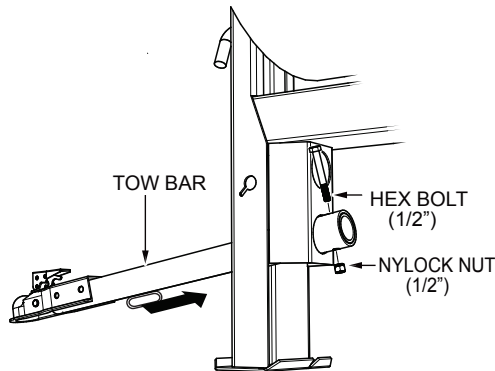
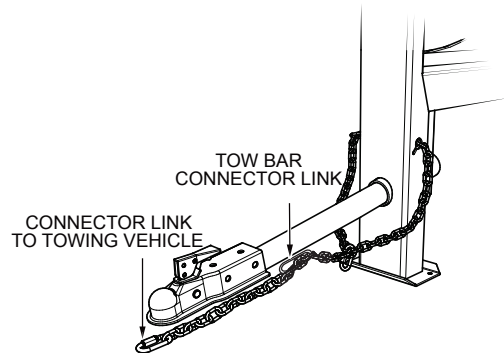

Figure 3. Insert Tow Bar
Figure 6. Extend Safety Chain
3. After the tow bar has been connected to the mixer (Figure 3–Figure 6), securely attach the mixer's coupler to the hitch ball on the towing vehicle. Make sure the lock lever is in the **DOWN** (locked) position and the safety pin is inserted.
1. Insert the tow bar (Figure 3) through the round opening at the bottom of the mixer stand.
2. Align the hole on the tow bar with the hole on the mixer frame and insert the 1/2-inch bolt (Figure 3) through the tow bar and frame. Secure the tow bar to the frame with the 1/2-inch nyloc nut. Tighten to 40 lbf-ft.
5. Extend the safety chain along the length of the tow bar and loop it through the tow bar's connector link (Figure 6). Remove any excess chain slack.
6. Connect the free end (connector link) of the safety chain to the towing vehicle (Figure 6). It is critical that the length of the chain be properly adjusted to prevent the draw bar and the front of the mixer stand from dropping to the ground (contact) in the event of the draw bar becoming disconnected from the towing vehicle.